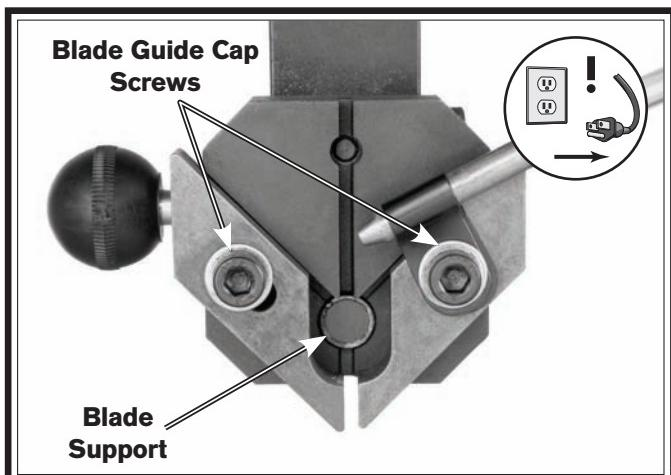

Figure 21. Blade guide assembly (upper assembly shown without blade for clarity).
- Slide the blade support (see **Figure 21**) up to, but not touching, the back of the blade, then re-tighten the blade support cap screw.
- Use a 5mm hex wrench to loosen the blade guide cap screws (see **Figure 21**).